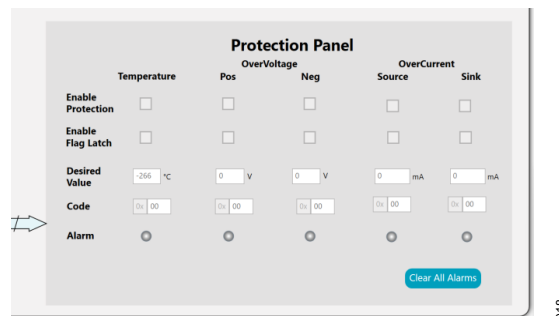

Figure 18. ADVH4710 Fault Protection Features
6. Set overtemperature, overvoltage, and overcurrent protection on the ACE plugin by updating their corresponding **Desired Value** boxes, as shown in Figure 18. Check **Enable Protection** and **Enable Flag Latch** to monitor faults. Refer to the ADVH4710 data sheet for more information on the programmable thresholds, and fault monitoring/protection features.